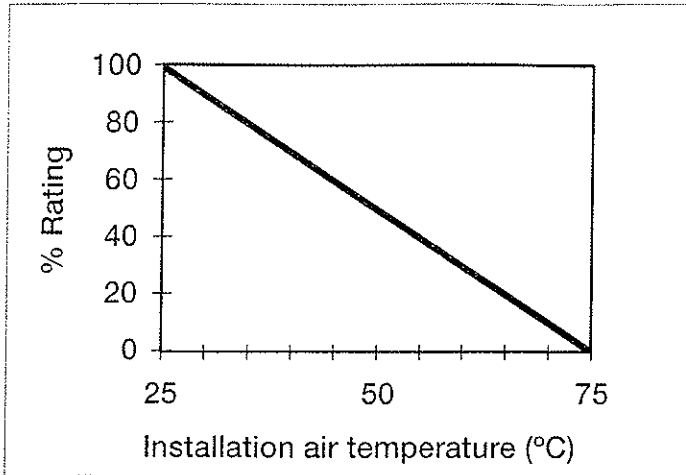

Fig 4. De-rating for high ambient temperatures
- When used in ambient temperatures greater than 25°C, the dimmer must be de-rated according to Fig 4.